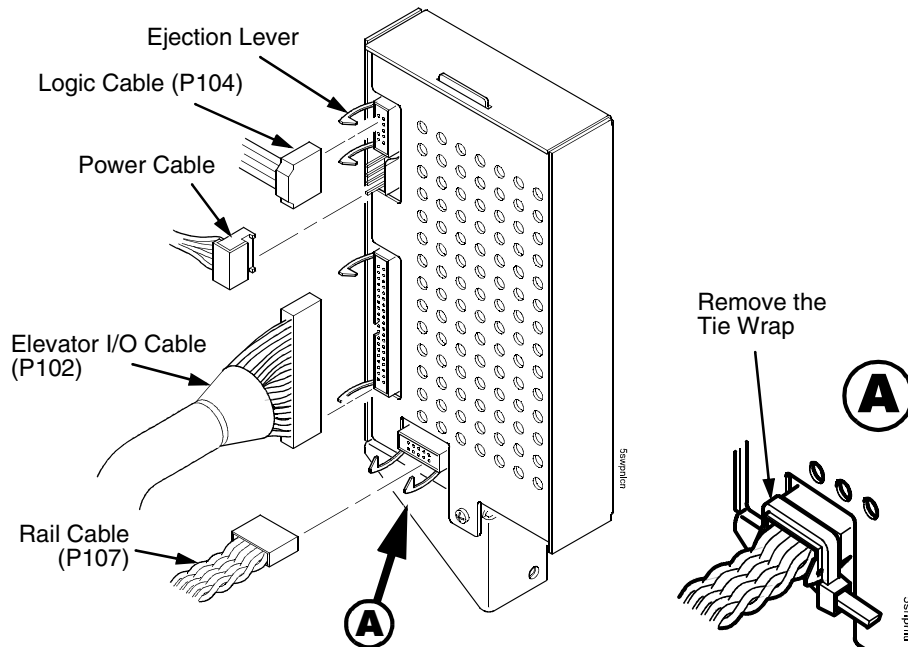

Figure 79. Removing Cables from the Stacker Control Panel
14. Remove four cables from the stacker control panel, and remove the stacker control panel. (Figure 79.)